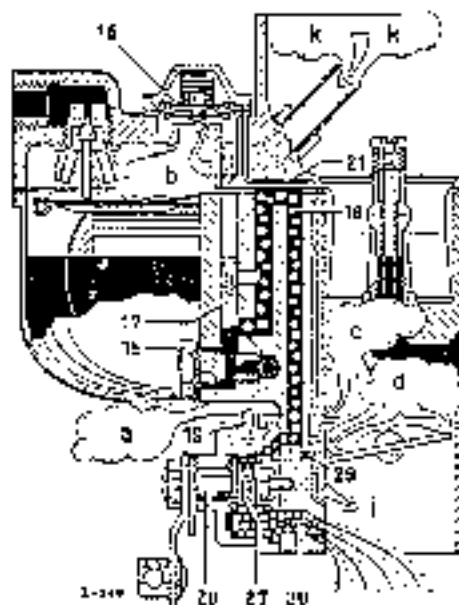

Fig. 07-0/15
As soon as the engine has warmed up a little, the starter knob can be pushed in halfway. As a result, the starter rotary slide valve is turned toward the right; via the starter lever; the graded bore (33) in the slide valve is covered by the sealing surface (35) on the starter flange (see Fig. 07-0/12). Since the starter mixing chamber (27) is no longer connected with the fuel cone (18) by the bore (33), but only by the fine-graded bore (32) in the starter rotary slide valve, the amount of fuel admitted is greatly decreased and the start mixture is leaned out further. Fig. 07-0/15 shows the mode of action of the starter mechanism during warming-up.